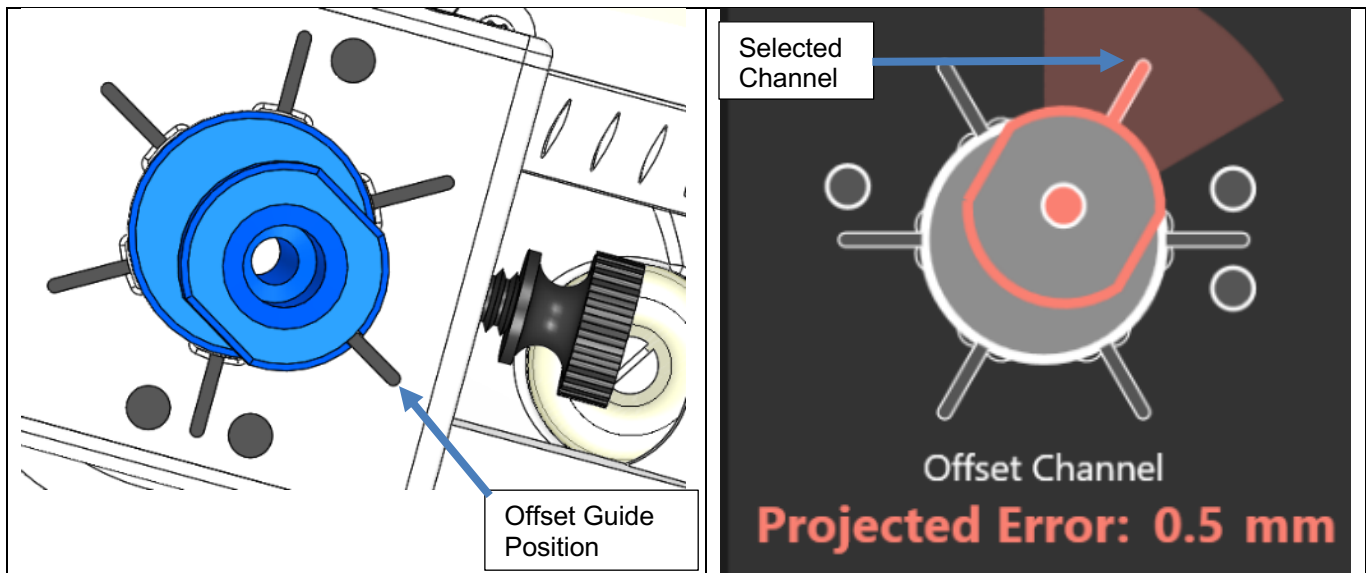

Figure 30: Offset Guide inserted into the position that was selected in the ClearPoint Array Software
6. Verify that the Offset Insertion Guide is positioned in the channel selected in the ClearPoint Array software. The orientation dots on the tower match up with those shown on the software. **See Figure 30.** If it is not, loosen the tower side thumbscrew, raise the Offset Insertion Guide and rotate it until the tab (white line) aligns with the correct position. Then, repeat Step 6.